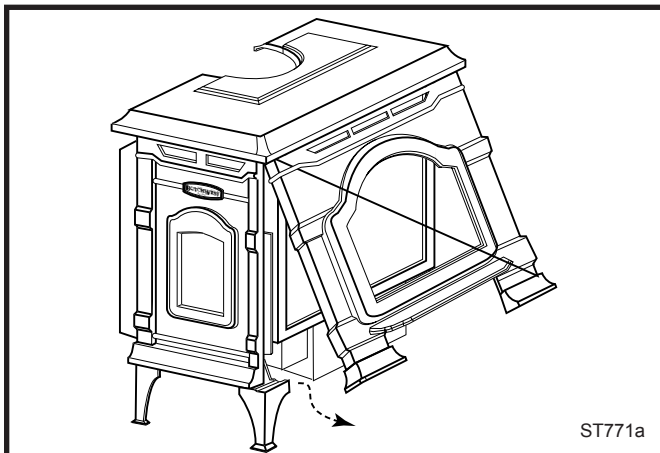

Fig. 58 Remove the stove front.
1. Remove stove front. Lift stove front up and then swing bottom out and away to disengage from the stove body. (Fig. 58, Page 30)
Replace glass only with MHSC approved parts. Refer to Page 33 for Replacement Parts. Refer to Figure 58 and previous instructions for removal of the damaged glass frame.
1. Remove the Front, Glass Frame and Glass Panel. (Figs. 58 & 59) Remove the old gasket. Use a razor blade to separate the glass and gasket from the frame, and to clean the glass of any remaining cement or bits of gasket. Use a cold chisel if necessary.